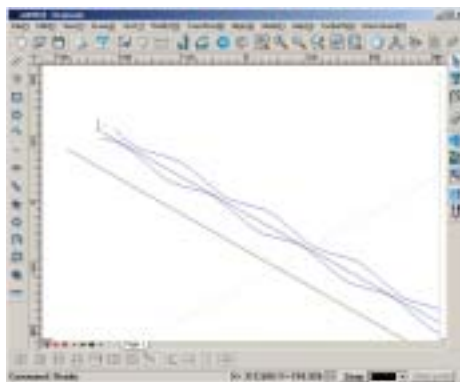

Fig. 7
2. Create tool paths for each pair of the two lines. Select one curve as baseline of one straight line, and select the other curve as the baseline of the other. The tool path is shown in Fig. 7.